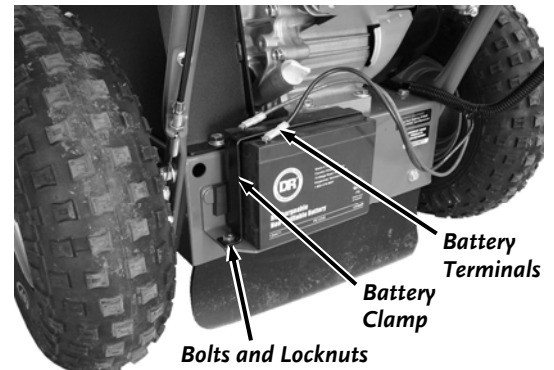

Figure 30
1. Disconnect the Battery Terminals (**Figure 30**).